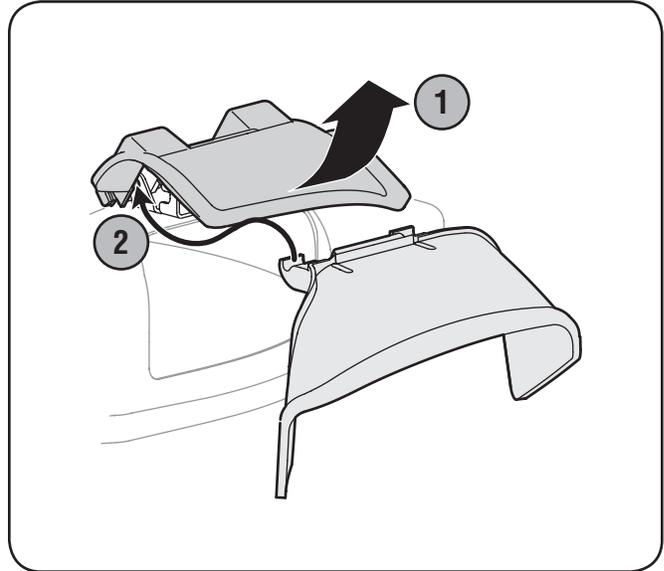

Figure 3-5
- Lift the mulching plug. See Figure 3-5.